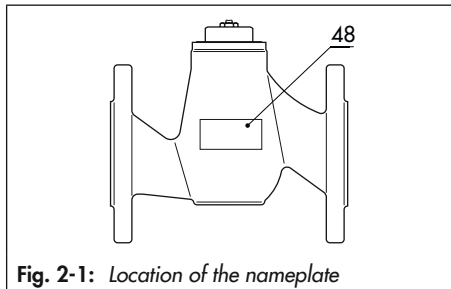

Fig. 2-1: Location of the nameplate
The nameplate (48) is affixed to the valve body (see Fig. 2-1).